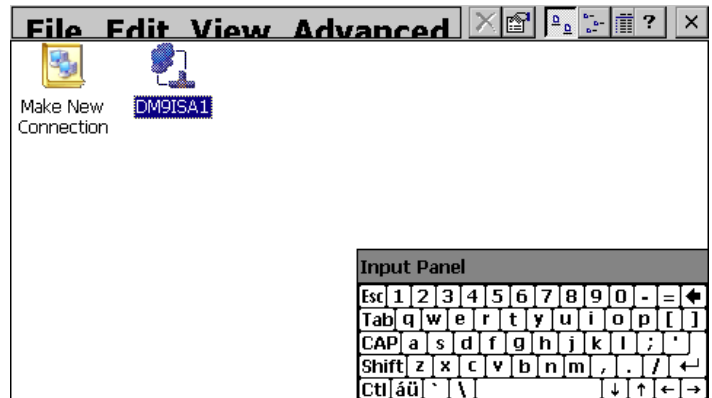

Fig. 127: Connections Window
- Close the Connection window by pressing the ‘X’ button at the top right of the window (Fig. 127).